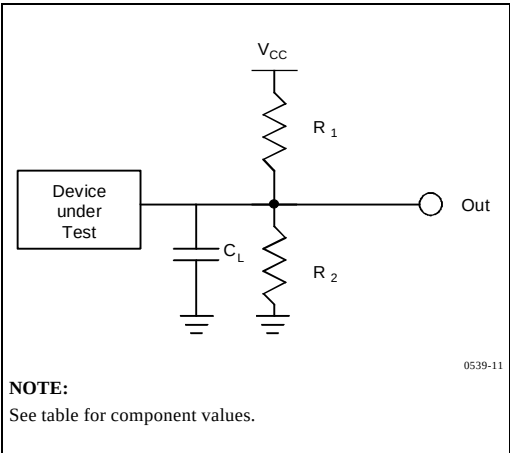

Figure 11. Test Configuration
5. See Test Configurations (Figure11), 3.3V Standard Test component values.
6. See Test Configurations (Figure11), 5V High-Speed Test component values.
7. See Test Configurations (Figure11), 5V Standard Test component values.